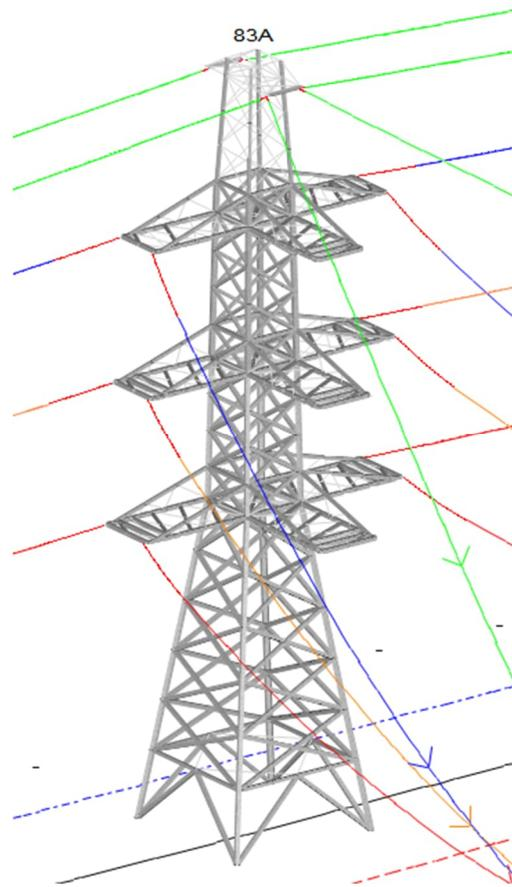

Figure 8: 2DD-HTSC Tower Illustration
8. Pending the commissioning of the substation either landing spans can be strung and the line reenergised or a bypass configuration can be adopted utilising the third crossarm installed on the 2DD-HSTC structure as illustrated in Figure 8.